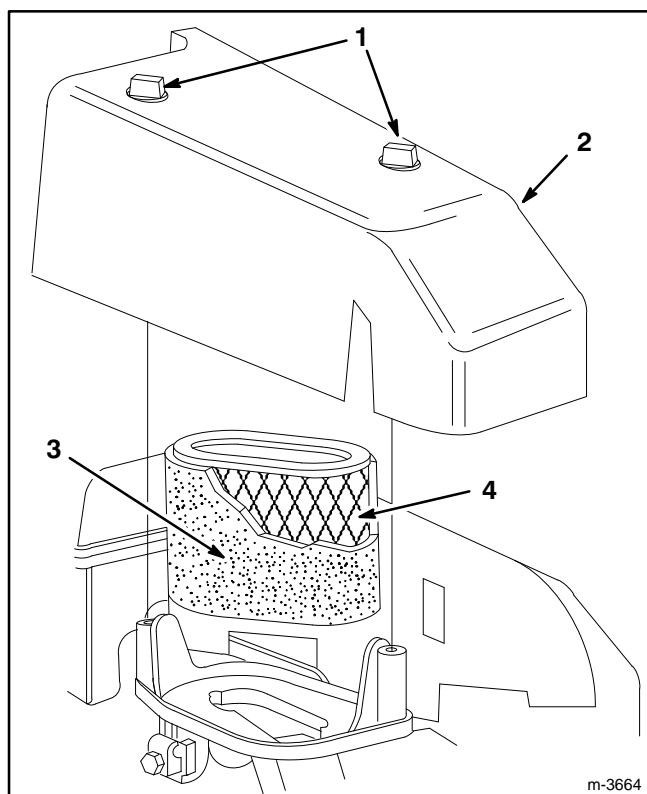

Figure 20
2. Remove two (2) knobs securing air cleaner cover to engine (Fig. 20).